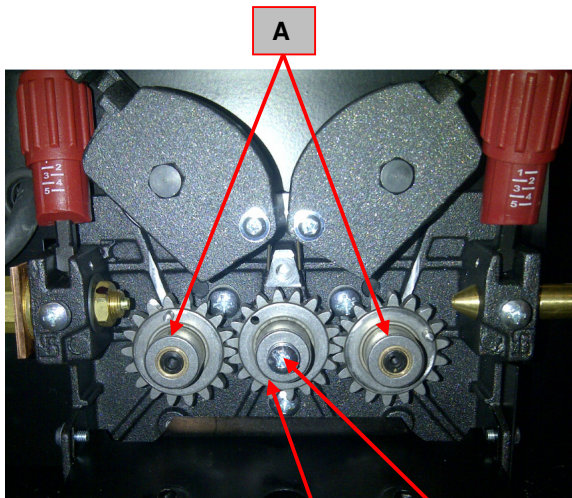

Figure 7
4. Remove the rolls gear wheels (A). See **Figure 7**.
5. Using the Phillips PH02 screwdriver remove the screw (B). See **Figure 7**.
6. Remove the motor gear wheel (C). See **Figure 7**.